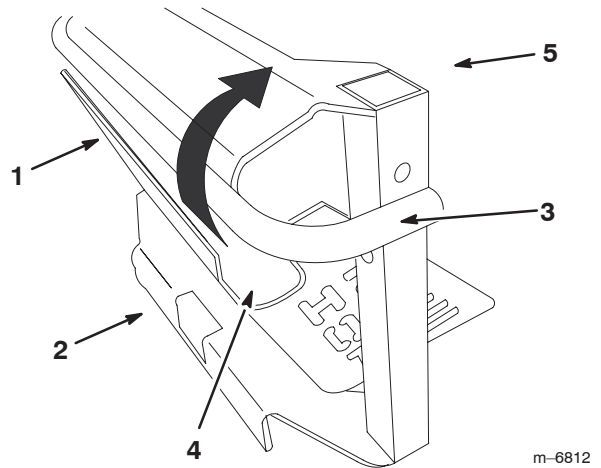

Figure 6
- At an angle, insert the top of the heat shield under the bar of the bagger bracket. Position the bagger bar as far as possible into the heat shield notches (Fig. 6).